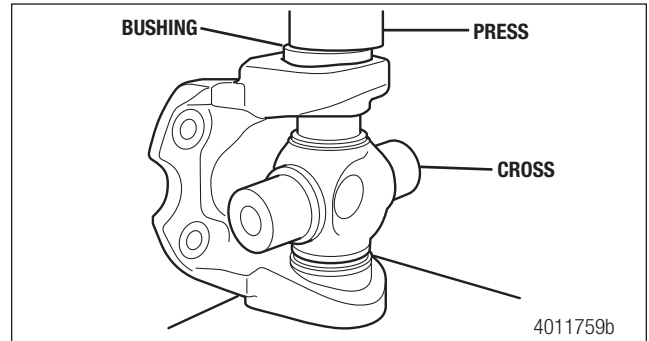

Figure 5.85
5. Verify the universal joint is positioned straight in the press and is not cocked. Ensure the universal joint and the bushings being installed are aligned before applying pressure. Press down on the top bearing to install it down into the yoke hole and onto the cross. Figure 5.85.